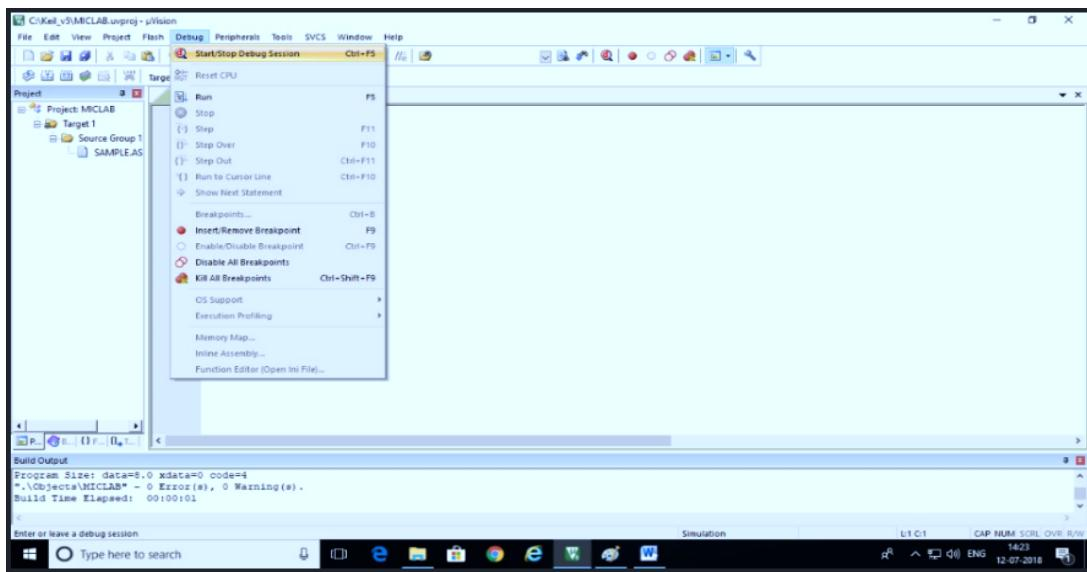

Figure 4.12: Start/Stop Debug Window
16. To start the simulation. Click on Debug pull down. Then select start/Stop debug session. (refer Figure 4.12)